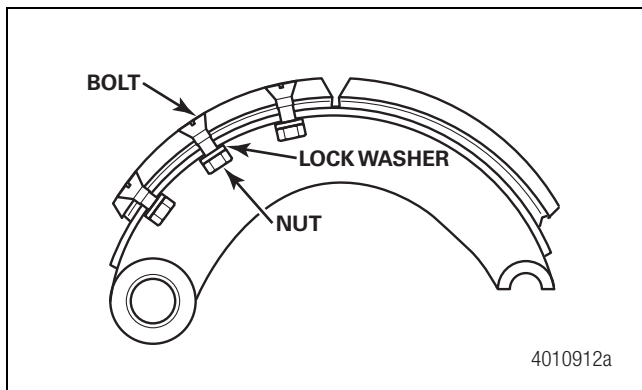
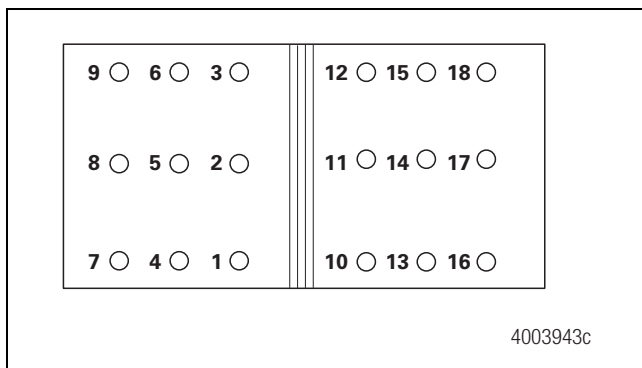
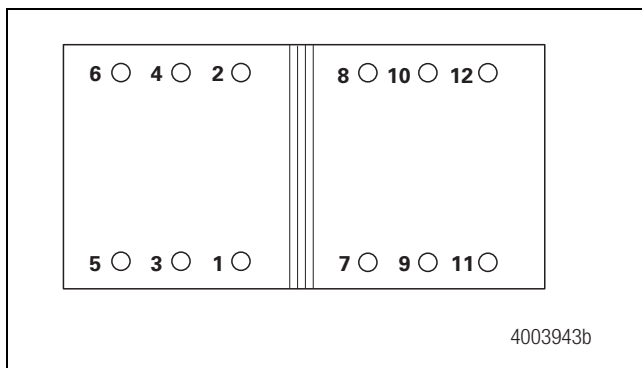

Figure 5.22
Figure 5.23
Figure 5.24
4. Install new lock washers and the nuts on the bolts. Figure 5.22. Tighten the nuts to 18-23 lb-ft (24.8-31.6 N•m) following the sequence shown in Figure 5.23 for 10-inch width brakes and Figure 5.24 for all other brake widths. **ⓘ**